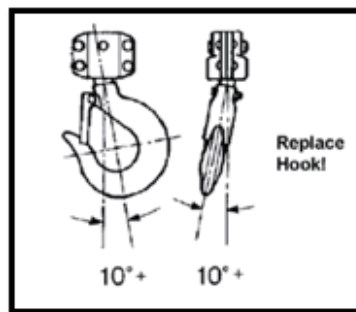

FIG 2
8. If the vertical angle at the neck of the bottom or top hook reaches 10° per FIG 2, replace the hook.